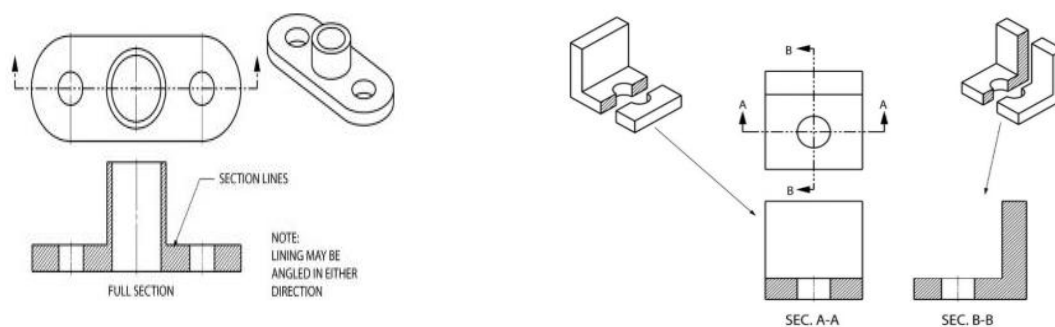

Fig. 2.40: Full Section
- In a full section, the object is cut completely through the middle, and the part behind the cutting plane is removed entirely. The resulting view shows all the internal features of the part (Fig. 2.40).